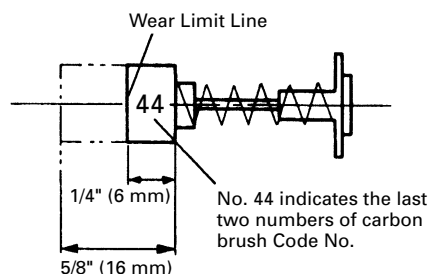

Fig. 26
2. Inspecting the carbon brushes (Fig. 26, 27)
Therefore, inspect the carbon brushes periodically and replace them when they have become worn to the wear limit line as shown in Fig. 26.